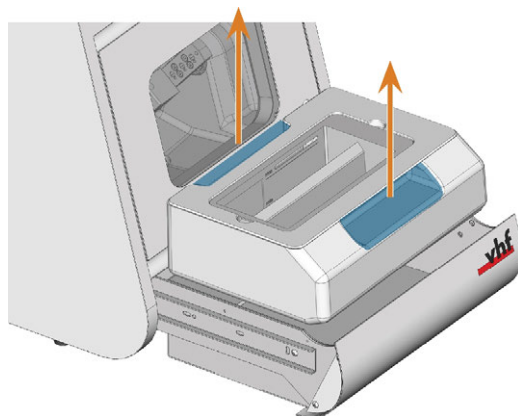

FIG. 33 REMOVING THE COOLING LIQUID TANK FROM THE COOLING LIQUID DRAWER
- Pull the cooling liquid tank out of the drawer in the direction indicated by the arrow (↗ Fig. 33 see below).